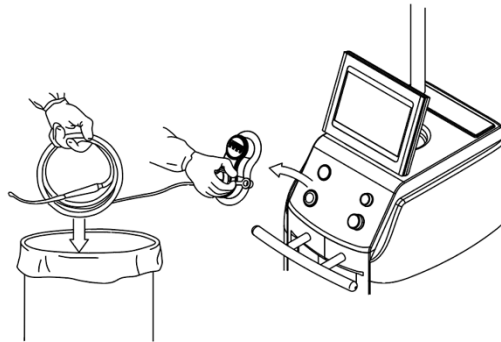

Figure 31 To Remove Manifold and Tubing
- d. Pull the manifold and attached suction tubing out of the receptacle, always keeping the manifold in a horizontal orientation (Figure 31).